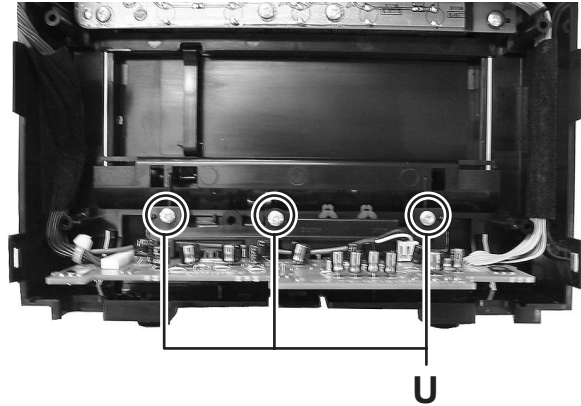

Fig.20
3.1.15 Removing the USB board (Fig.20)